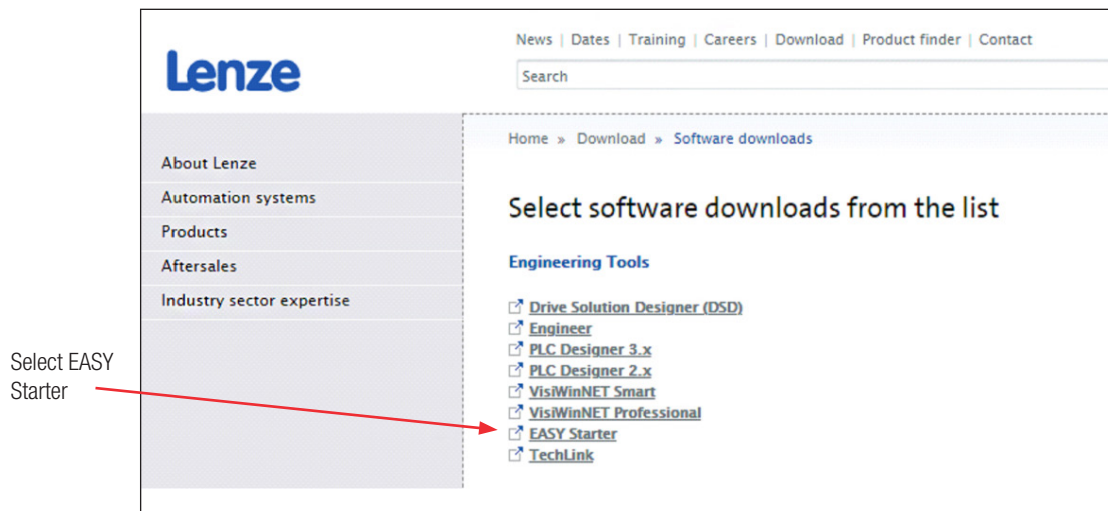

Figure 5.1. Accessing latest version of EASY Starter software.
1. Download the newest version of the Lenze™ EASY Starter software onto a laptop. The latest version can be accessed by opening the Home page of the Lenze website, selecting **Download** > **Software Downloads**, and selecting **EASY Starter** (Figure 5.1).